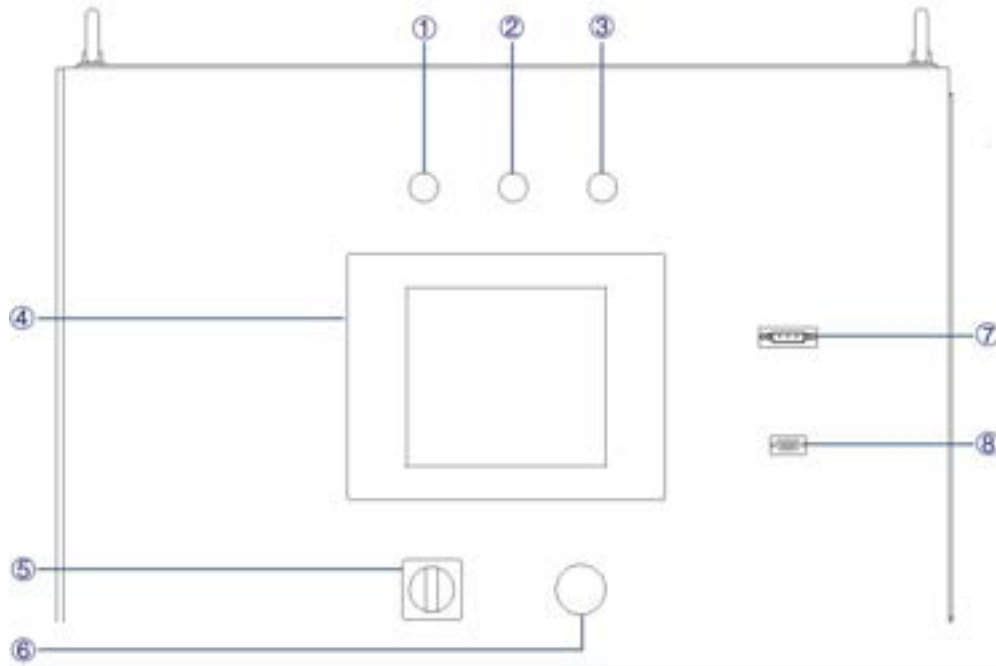

Figure 3-6
Step 2: Turn the power knob counterclockwise (Figure 3-6⑤).